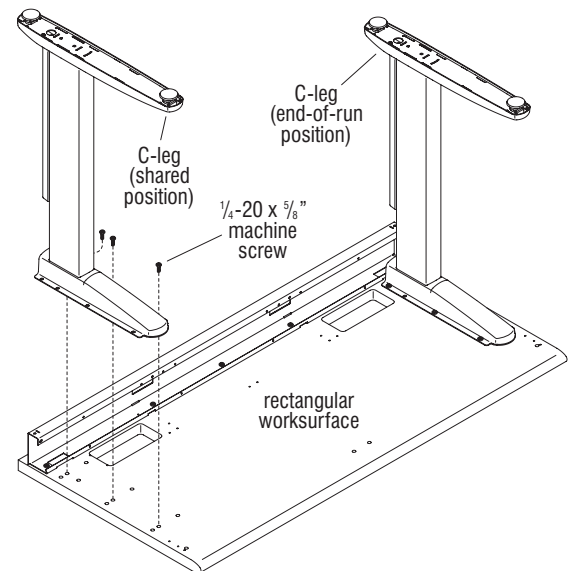
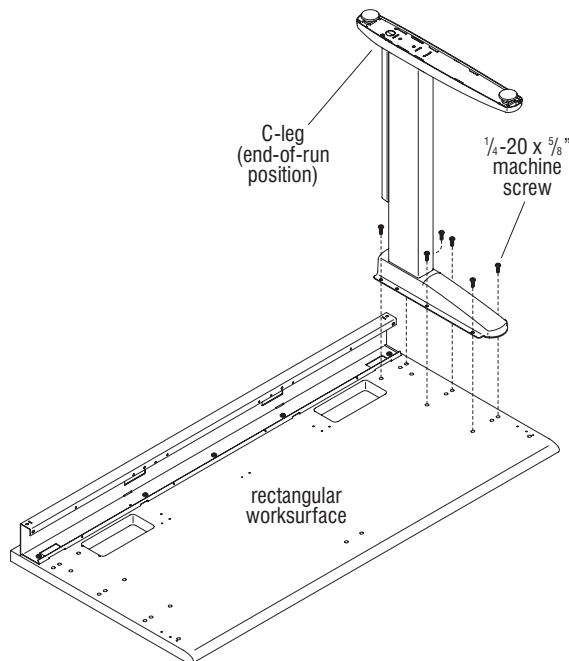

Figure 4 - Starter Rectangular Table
Figure 7 - Finisher Rectangular Table
Note: In the instructions to follow, when assembling a run of InTandem table units which will be ganged together, the steps will refer to starter, adder and finisher tables. When positioned at a table at the user side, a starter table is the left-hand table and begins the run of ganged tables with one end-of-run leg and one shared leg (Figure 4). If more than two tables will be ganged together, any number of adder tables serve to continue a run of units past the starter, and they each only get one shared leg installed (page 8, Figures 5 & 6). A finisher table ends the run of two or more tables with an end-of-run leg (page 9, Figure 7), where the other end of the table has no leg because it shares a leg with an adder table.
1. A starter rectangular table requires two C-legs, one leg secured at an end-of-run position, and the other secured at a shared C-leg position. Align the mounting holes on each C-leg with the steel inserts on the underside of the worksurface, or to the mounting holes on the underside of the wheelchair accessible kit. Take into account your space-planning layout, whether the C-leg should be positioned in the shared or end-of-run mounting position. A shared C-leg will have half of the leg hang over the side of the worksurface or wheelchair kit to later be shared by an adder or finisher table. Secure each leg to the worksurface or kit using three 1/4-20 x 5/8" machine screws if the leg is shared, six if the leg is end-of-run. If the screws are securing the legs to the kit, at the threaded end of each bolt, twist a 1/4-20 nut on until snug. For ease of installation, start all screws before tightening (Figure 4 & Details D, E, F & G).
1. Finisher rectangular tables require one end-of-run position C-leg installed to the underside of the worksurface or wheelchair accessible kit, with the complete mounting surface of the leg securing directly to the bottom of the worksurface or wheelchair accessible kit. Align the mounting holes of the C-leg with the steel inserts on the underside of the worksurface or the mounting holes on the underside of the wheelchair kit, taking into account your space-planning layout and where the end-of-run C-leg should be positioned. Secure the leg to the worksurface using six 1/4-20 x 5/8 inch machine screws. If the screws are securing the legs to the kit, at the threaded end of each bolt, twist a 1/4-20 nut on until snug. For ease of installation, start all screws before tightening (Figure 7 & Details J & K).